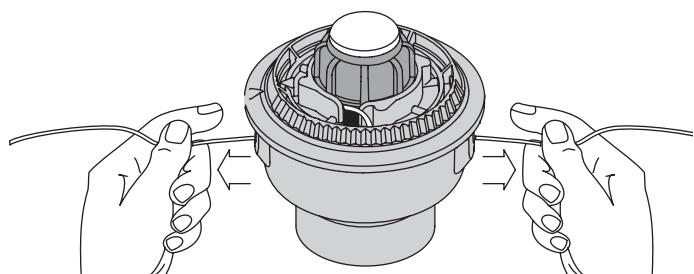

Fig. 17
- If winding the line becomes difficult or if the line jams, pull the ends of the line from the spool (Fig. 17). Continue winding the inner reel counterclockwise.